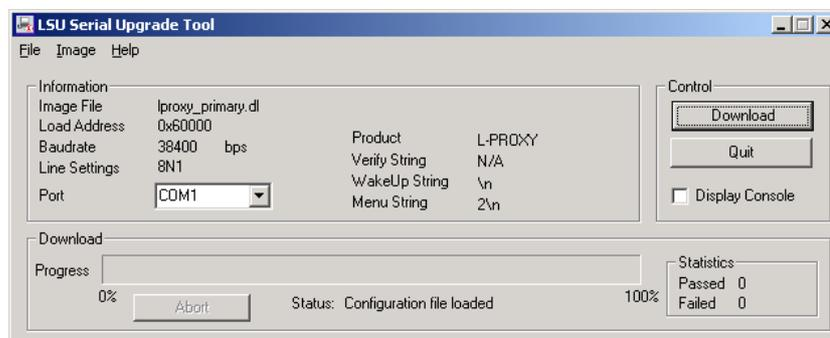

Figure 118: LSU Serial Upgrade Tool in Idle Mode
1. Double click on the *.dlc file that comes with the new firmware package. This should start the LSU Tool and load the firmware image referenced in the dlc file. Please note that the dlc file and the dl file must be stored in the same folder. The start window of the LSU tool is shown in Figure 118.